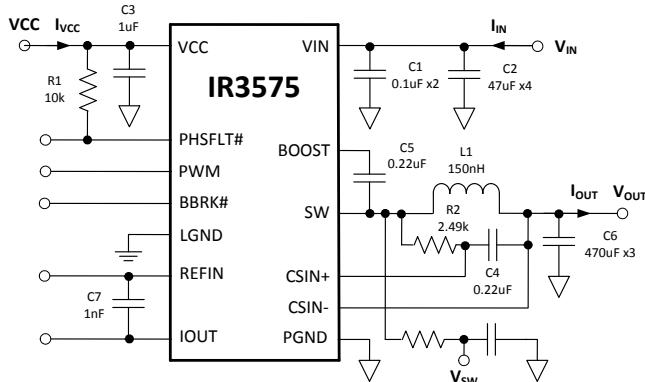

Figure 32: IR3575 Power Loss Measurement
Circuit of Figure 32, $V_{IN}=12V$, $V_{OUT}=1.2V$, $f_{SW}=400kHz$, $L=150nH$ (0.29mΩ), $VCC=7V$, $T_{AMBIENT}=25^{\circ}C$, no heat sink, no air flow, 8-layer PCB board of 3.7" (L) x 2.6" (W), no PWM controller loss, no inductor loss, unless specified otherwise.
The single-phase IR3575 efficiency and power loss measurement circuit is shown in Figure 32.